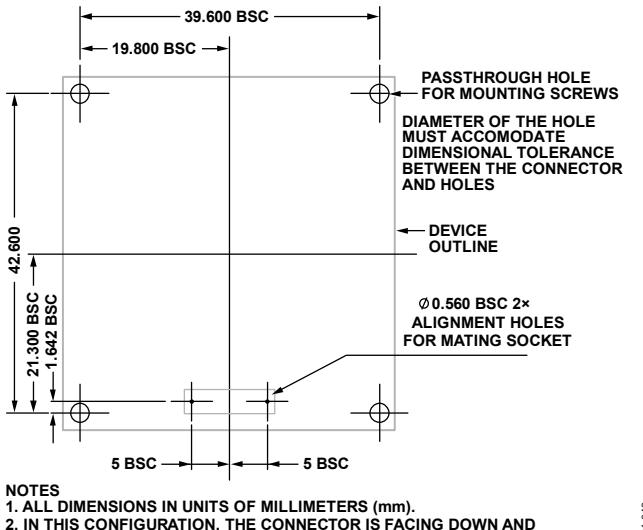
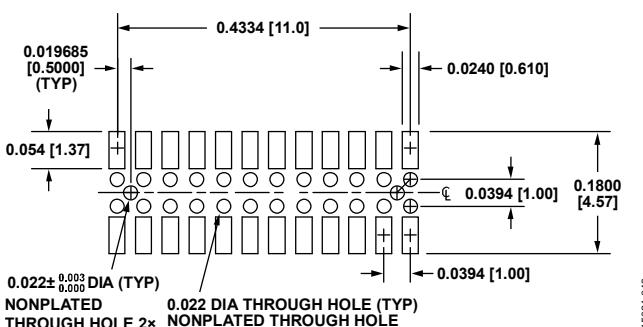

Figure 42. Suggested PCB Layout Pattern, Connector Down
Figure 43. Suggested Layout and Mechanical Design When Using Samtec CLM-112-02-G-D-A for the Mating Connector
- When the ADIS16497 rests on the PCB, which contains the mating connector (see Figure 42), use a diameter of at least 2.85 mm for the passthrough holes.
Figure 42 and Figure 43 provide details for mounting hole and connector alignment pin drill locations.